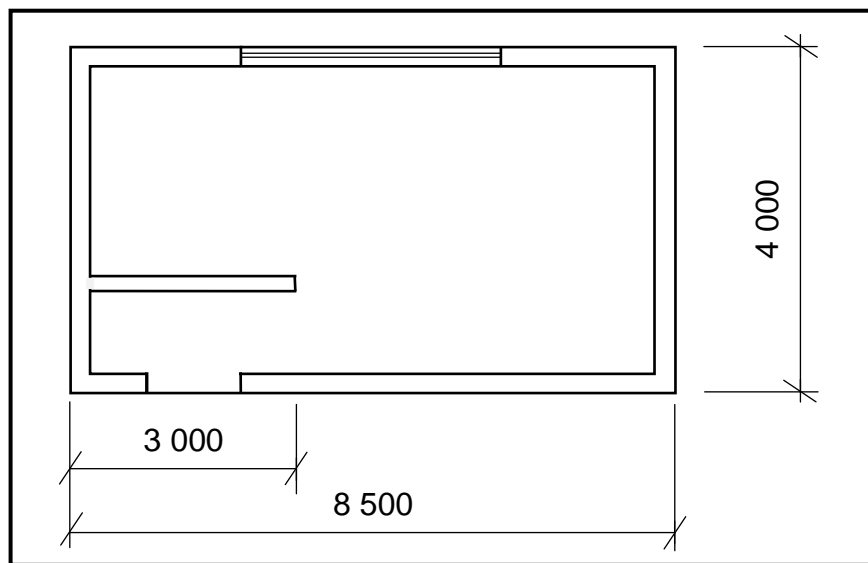

FIGURE 6.9
6.9 FIGURE 6.9 below shows the floor plan of a garage with a window and an opening for a door.